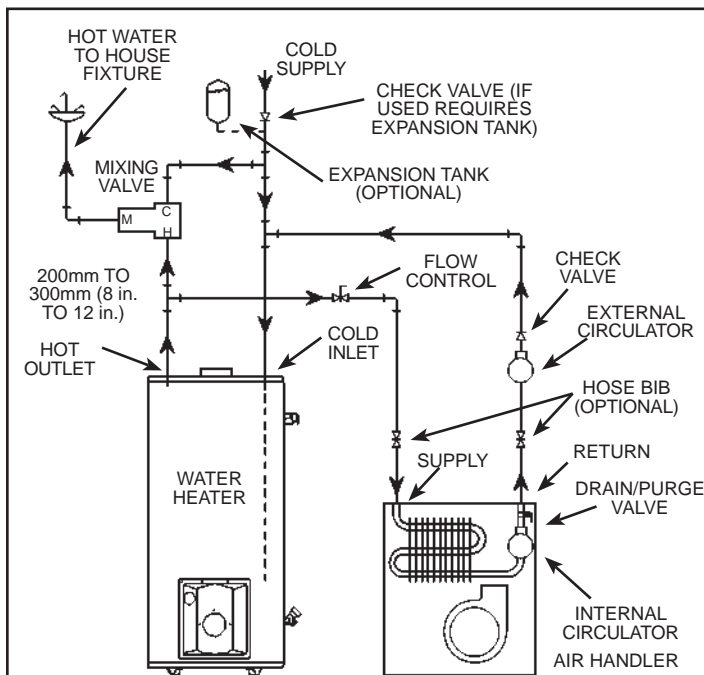
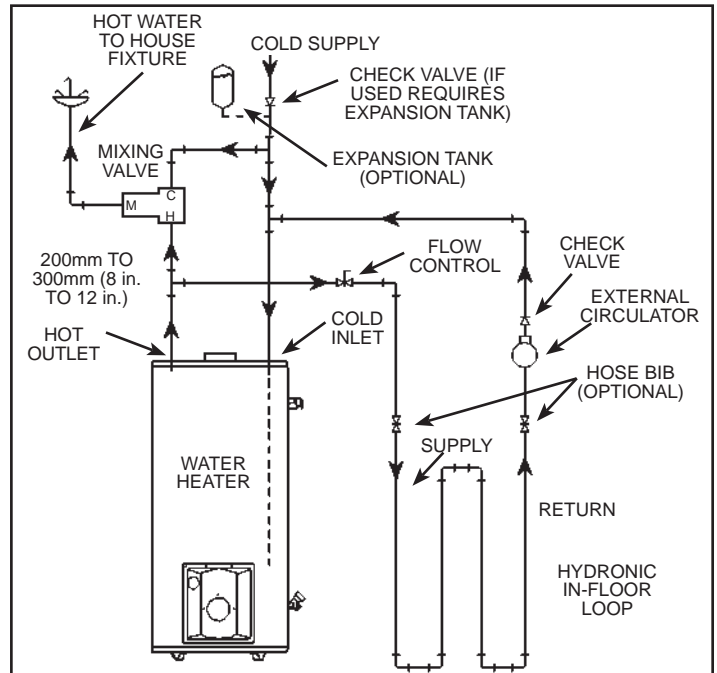

Figure 17. Combo Heating - Air Handler
Figure 19. Combo Heating - In-Floor Loop
8. "Combo" Heating Systems require higher water temperatures than other applications. When the system is used to supply water for Combo Heating applications, a means, such as mixing valve, must be installed to temper the water in order to reduce scald hazard potential (see Figure 17 through Figure 19).
1. A fan coil/air handler (Figure 17).
3. A hydronic in-floor heating loop (Figure 19).